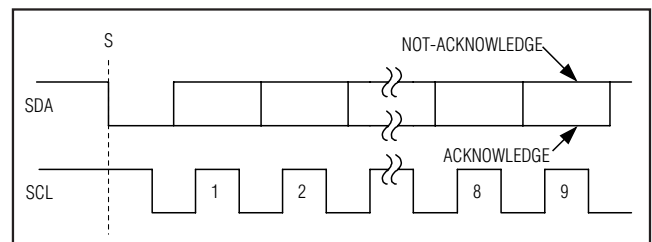

Figure 6. Acknowledge Bits
Data transfers are acknowledged with an acknowledge bit (A) or a not-acknowledge bit (Ā). Both the master and the MAX11644/MAX11645 (slave) generate acknowledge bits. To generate an acknowledge, the receiving device must pull SDA low before the rising edge of the acknowledge-related clock pulse (ninth pulse) and keep it low during the high period of the clock pulse (Figure 6). To generate a not-acknowledge, the receiver allows SDA to be pulled high before the rising edge of the acknowledge-related clock pulse and leaves SDA high during the high period of the clock pulse. Monitoring the acknowledge bits allows for detection of unsuccessful data transfers. An unsuccessful data transfer happens if a receiving device is busy or if a system fault has occurred. In the event of an unsuccessful data transfer, the bus master should reattempt communication at a later time.